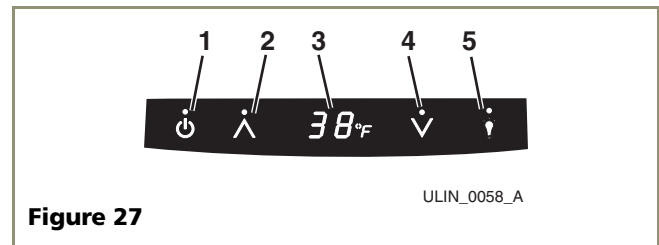

Figure 27
2. Open the top drawer and press the **POWER** icon to turn the unit off. (see **Figure 27,1 page 14**)
Once installation and leveling is complete, the unit is ready for initial start-up and operation. Open the top drawer press and hold the **POWER** icon (see **Figure 27,1**) on the display panel for approximately ten seconds until the °F symbol flashes and release.
The electronic control with digital display (**Figure 27**) is configured to show a single temperature continuously. This set-point temperature is a base number used by the controller to maintain the temperature zone in your unit. The factory default set-point is 38°F. This set-point temperature is used as a gauge if further temperature adjustments are required.